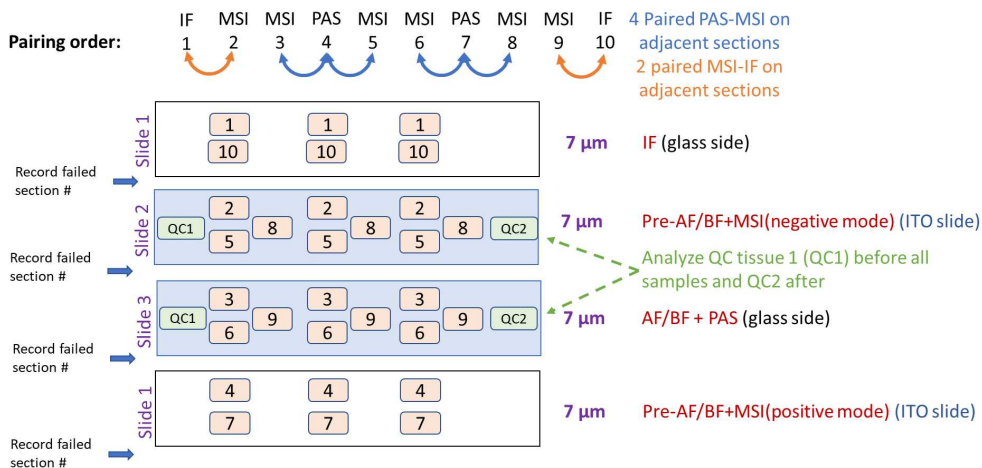

Figure 1. Sandwich model of human kidney biopsy tissue
- 3 Thaw-mount in sequential order as outlined in Figure 1. Dry the sections immediately after sectioning in the cryostat chamber. Each slide will be marked with a number via a scribe.